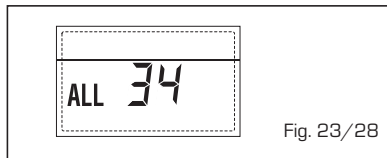

Fig. 23/28
- **RS-485 AND RS-485 COMMUNICATION ANOMALY "ALL 35" (fig. 23/29)**